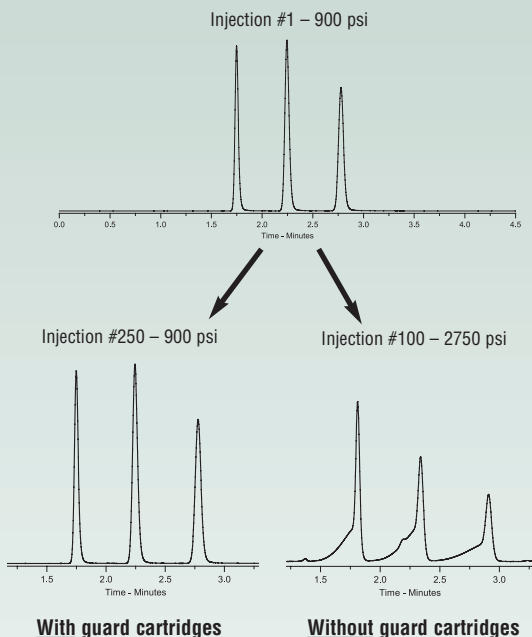

Figure 13. The use of guard cartridges can significantly increase column lifetime due to prevention of column fouling.
4.3. Guard cartridges provide two-fold protection of the column. If an in-line filter is not used, the frit at the head of the guard cartridge will trap particles that might otherwise foul the inlet frit on the column. The stationary phase in the guard cartridge should be matched to the analytical column so that it will trap substances that would be irreversibly adsorbed to the analytical column. Thus, the guard cartridge acts as a sacrificial element in the system. A 10% rise in system pressure, that is not corrected by replacement of the in-line filter, is a good indication that the guard cartridge should be replaced, as is a 10% drop in column efficiency or resolution. Figure 13 shows an example of the effectiveness of guard cartridges in protecting the analytical column.